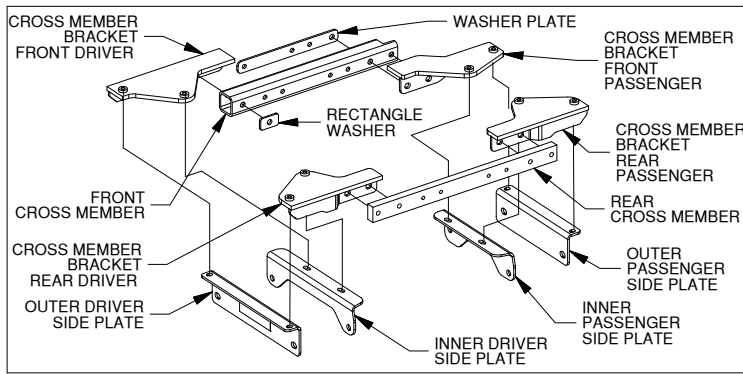
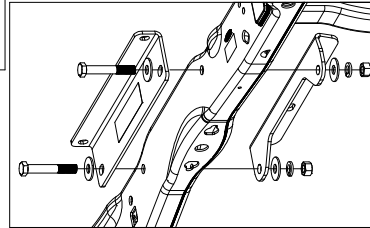
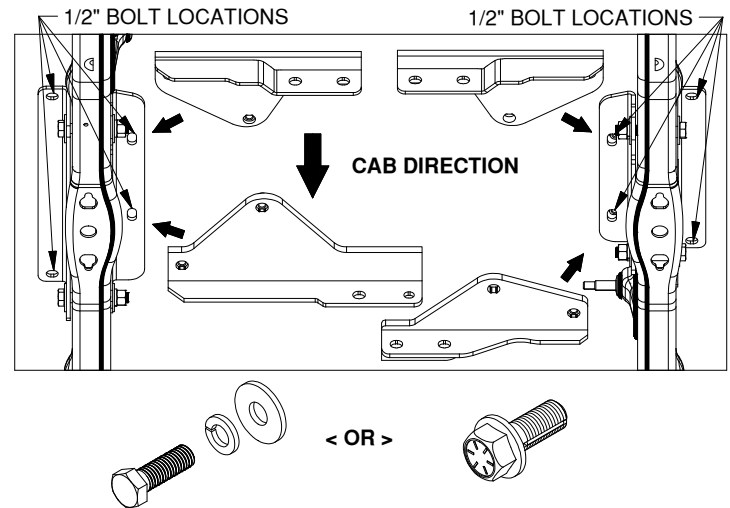
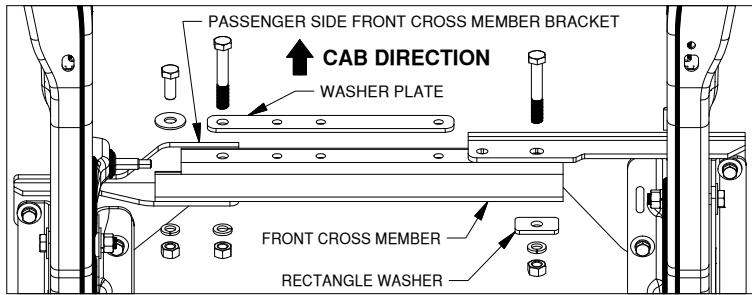

Figure B1: Side plates and Mounting Kit Exploded View
Figure B3: Driver Side Side plates
Figure B5: Bottom of truck frame looking up from the back of truck towards the cab
Figure C1: Bottom of truck frame looking up from under the cab towards the back of the truck.
3. **Install side plates.** Locate the outer and if needed the inner side plates, see Figure B1. Install the side plates as shown in Figures B3 & B4, so that there is a side plate on the inside and outside of each frame member. Attach the side plates to the frame using 5/8" x 4" bolts, two flat washers, lock washer, and nut, as shown in Figure B3. Fasten hardware until the side plates are flush against frame.
5. **Install cross member brackets.** Locate the four cross member brackets as shown in Figure B1, and the eight 1/2" bolts with an added thread locker. Attach these brackets to the inner and outer side plates using these bolts. If the bolts with thread locker are cap screws without a flanged head, also add a flat and lock washer, see Figure B5.
1. **Install front cross member.** Locate the front cross member shown in Figure B1. Using the washer plate, 5/8" X 4" bolt, 5/8" flat washer, and a 5/8" x 1-1/2" bolt, attach the front cross member to the passenger side front cross member bracket, see Figure C1. Next, attach the cross member to the driver side cross member bracket with 5/8" x 4" bolt, rectangle washer, lock washer and nut, as shown in Figure C1.